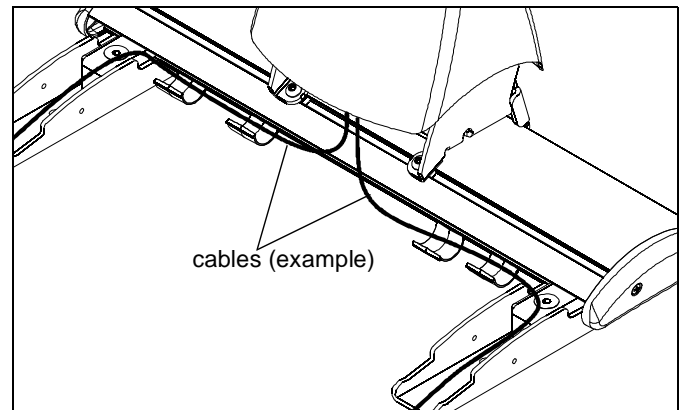

Figure 23
5. Thread cable up wall bracket channel and into opened cable clips. (See Figure 23) **Proceed to Step 7.**